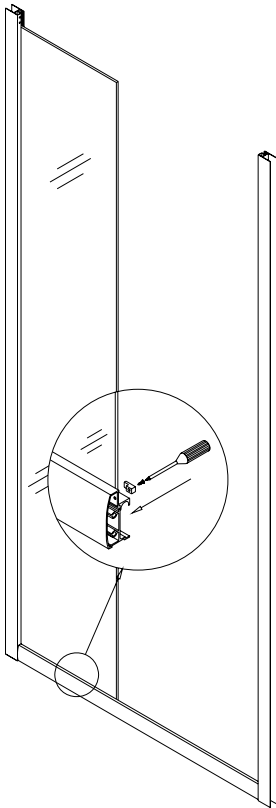

Fig 6
5. Push the **Stationary glass (05)** into glass profile groove, and then fasten it by glass holders to the guide rails. See Fig 6 for details.